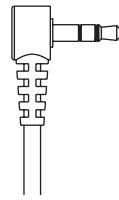
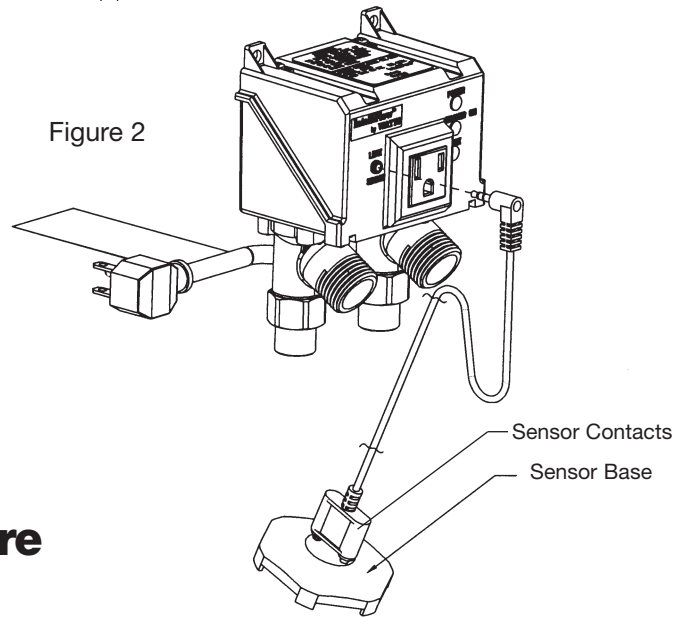

Figure 1
Figure 2
1. Insert the leak sensor contacts into the two holes on the top of the sensor base until the plug comes to a stop (Figure 2).
3. Insert the leak sensor plug (Figure 1) into the leak sensor receptacle on front panel (Figure 2).
1. Before plugging in the IntelliFlow® power cord into an electrical receptacle, ensure that the leak sensor plug (Figure 1) is unplugged from the IntelliFlow® unit (Figure 2).
4. Plug the leak sensor plug into the leak sensor receptacle on the front panel. This will calibrate the IntelliFlow® to the washing machine’s off or standby position current draw. During the calibration sequence, the red LED lamp will remain lit for approximately 3-5 seconds. When calibration is complete the red LED lamp will blink four (4) times and shut off.
To calibrate the IntelliFlow® for use with the IntelliTimer be sure that the washing machine is off and ensure that the power supply to the IntelliTimer is plugged into the IntelliFlow® unit. Remove the leak sensor plug (Figure 1) from the receptacle, wait 5 seconds, then reinstall the sensor plug. During the calibration sequence, the red LED lamp will remain lit for approximately 3-5 seconds. When calibration is complete the red LED lamp will blink four (4) times and shut off.